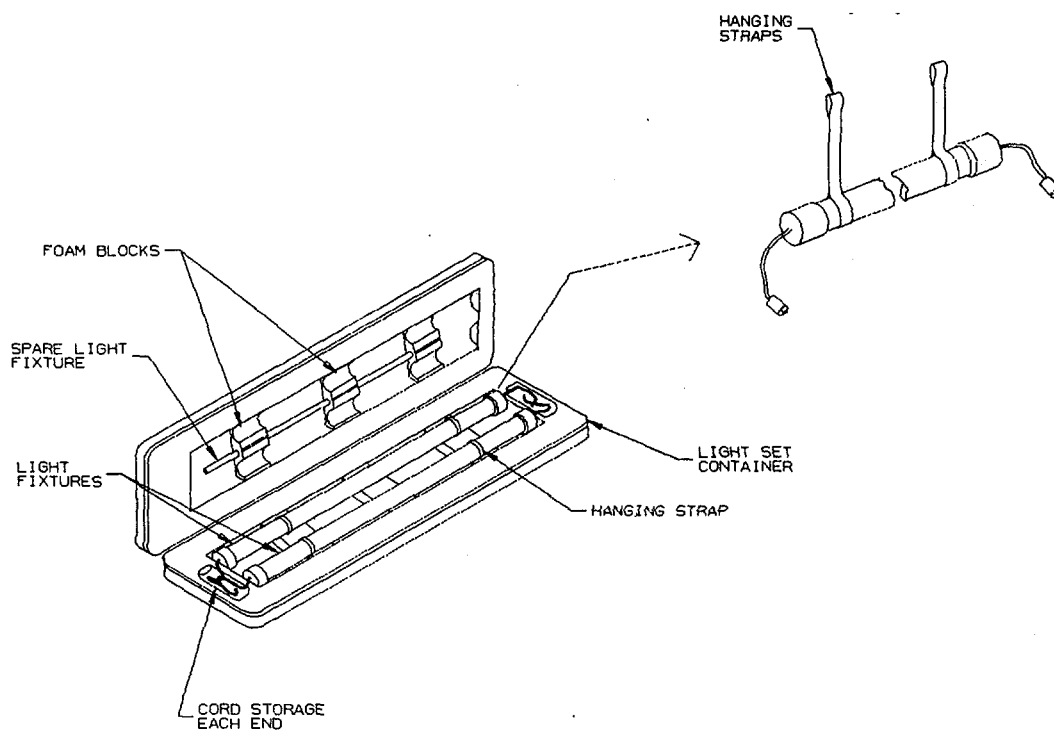

Figure 1-5. Light Set
c. Figure 1-5 illustrates the light set, which is for illumination purposes.